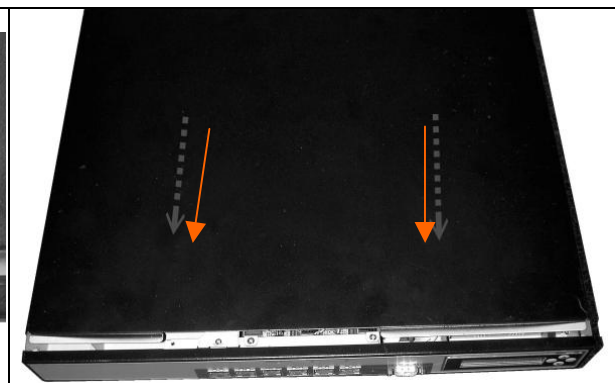

Fig. 2-37
2. Push the top cover towards to the front side. (**Fig.2-37**)